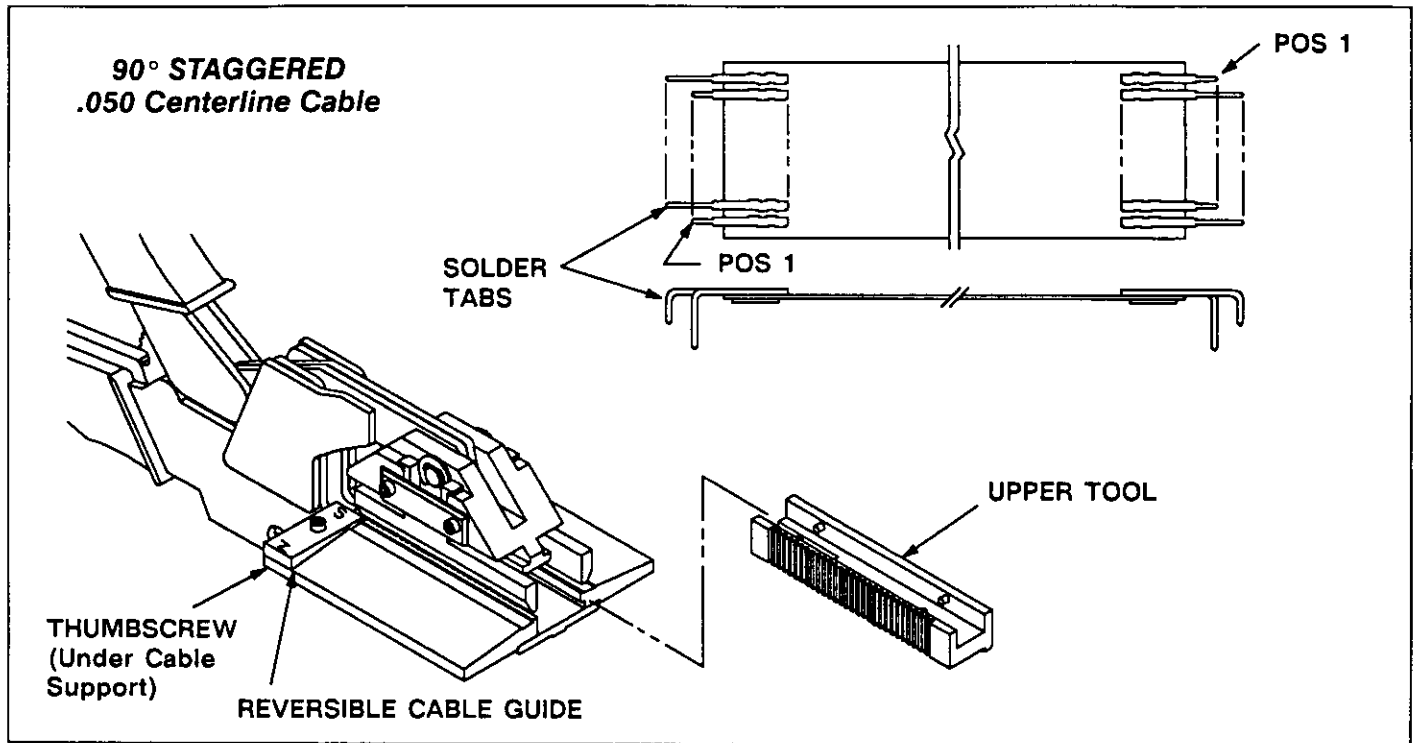

Fig. 3
A. .050 Centerline Cable, 90° Staggered (Figure 3)